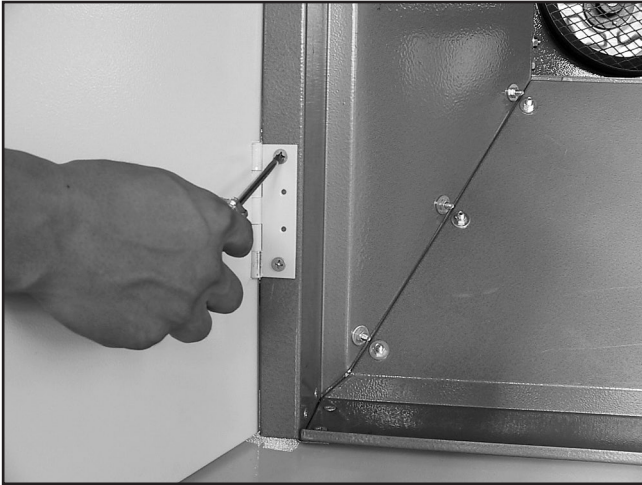

Figure 17. Installing left curtain.
1. Fasten the upper and lower hinges (**Figure 17**) on the left curtain to the left skew board with four $\frac{1}{4}$ " -20 x $\frac{5}{8}$ " flat head screws, four flat washers and four hex nuts.